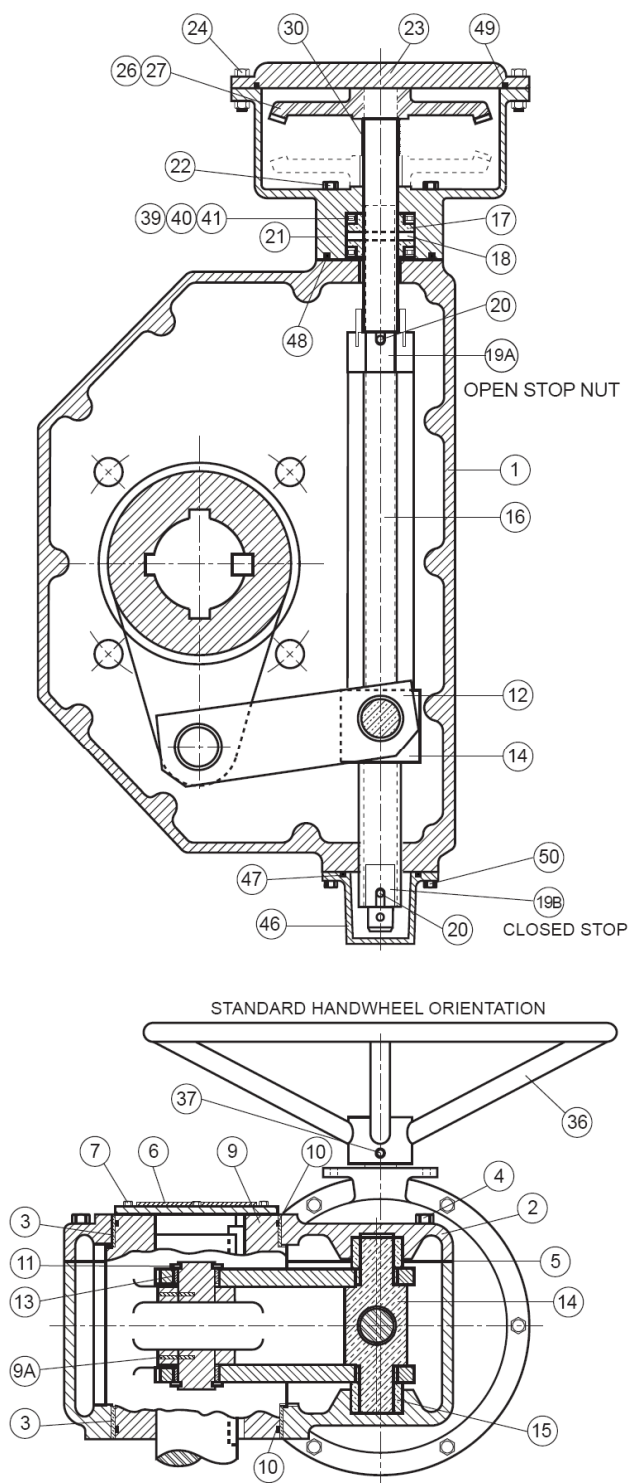

FIGURE 9. TRAVELING NUT ACTUATOR CONSTRUCTION
TRAVELING NUT ACTUATOR MAINTENANCE: A typical traveling nut actuator is shown in Figure 9 and consists of a threaded nut (12) which travels back and forth on a threaded stem (14). The stem is lubricated with EP2 grease in a cast iron housing (1). The nut, in turn, drives a slotted lever (4) through 90 degrees of travel. The lever (4) drives the valve shaft with a